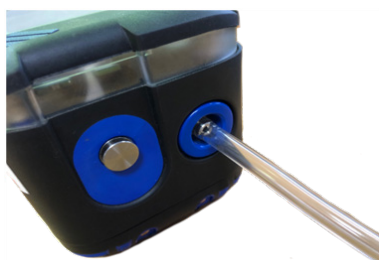

Figure 79: Connect Calibration Gas
2. Connect the calibration gas to the monitor inlet (as shown in Figure 79: Connect Calibration Gas).